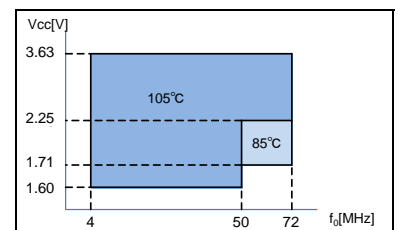

Figure 1 : The upper limit of Operating temperature and the related conditions
| ④Supply voltage *See Figure 1 |                     | ⑤Frequency tolerance / ⑥Operating temperature range |   |
| ③Supply voltage *See Figure 1 |                     | ⑤Frequency tolerance |   |